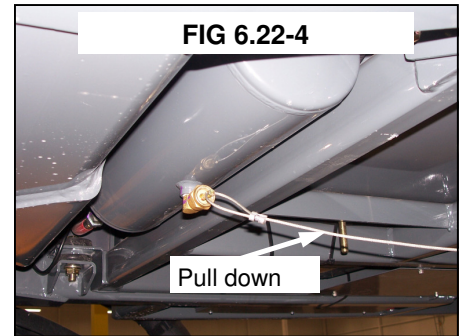

FIG 6.22-4
**AIR TANK**– Drain the air tank (fig. 6.22-4) daily by slowly releasing the drain cock. Check for moisture in the system.